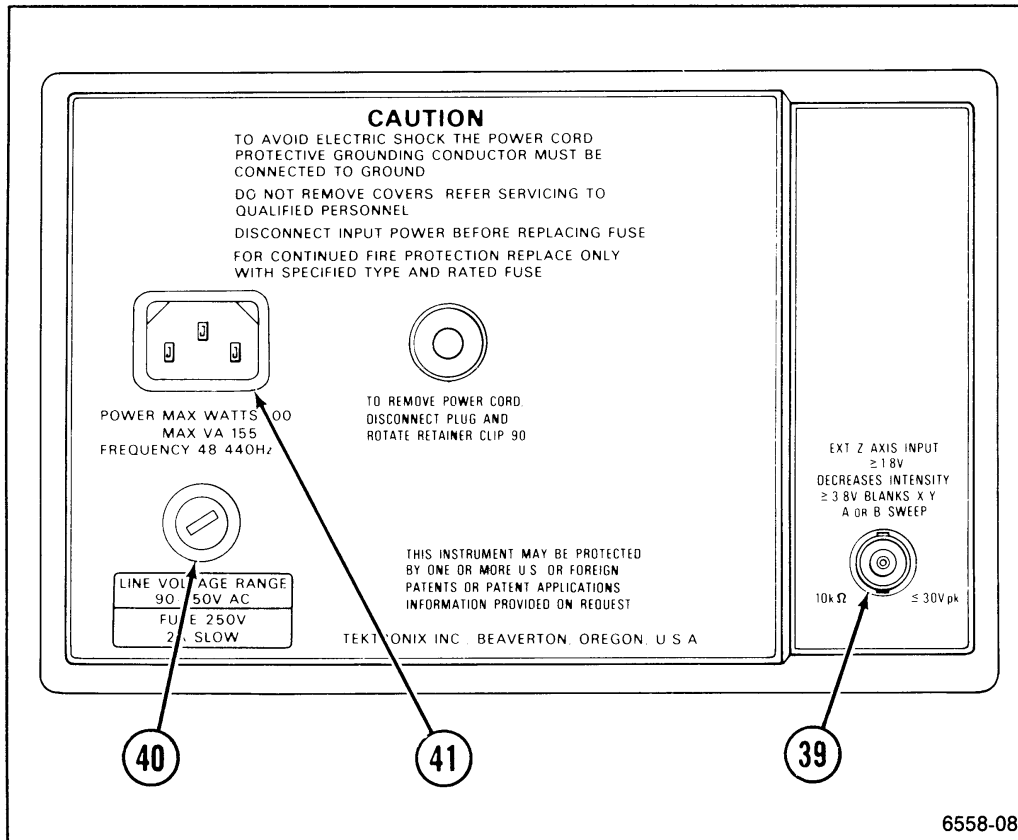

Figure 2-6. Rear panel connectors and fuse.
Refer to Figure 2-6 for location of items 39 through 41.
- ③⑨ **EXT Z-AXIS INPUT Connector**—Connects external signals to the Z-Axis amplifier for intensity modulating the crt display.